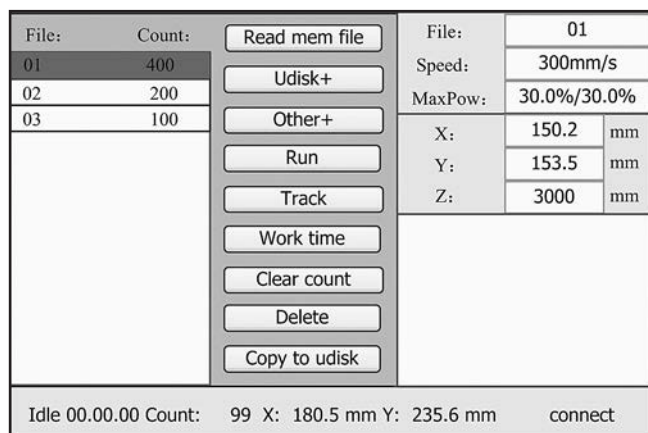

Figure 41. Example of file management screen.
- Press File button on control panel to display file management screen (see **Figure 41**).